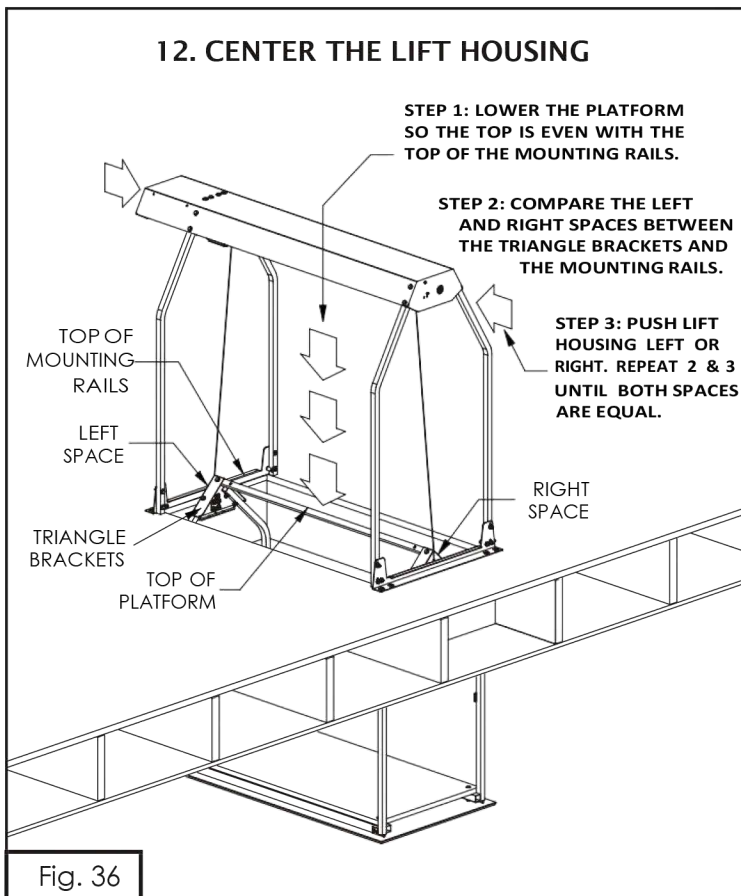

Fig. 36
Step 1: Lower the lift platform until the top is even with the top of the mounting rails. See Fig. 36.
Step 3: Adjust the position of the lift housing by pushing it firmly left or right as shown in Fig. 36. If the left space is larger, then push the lift housing right. If the right space is larger, push the housing left. Repeat these steps until the left and right spaces are equal.